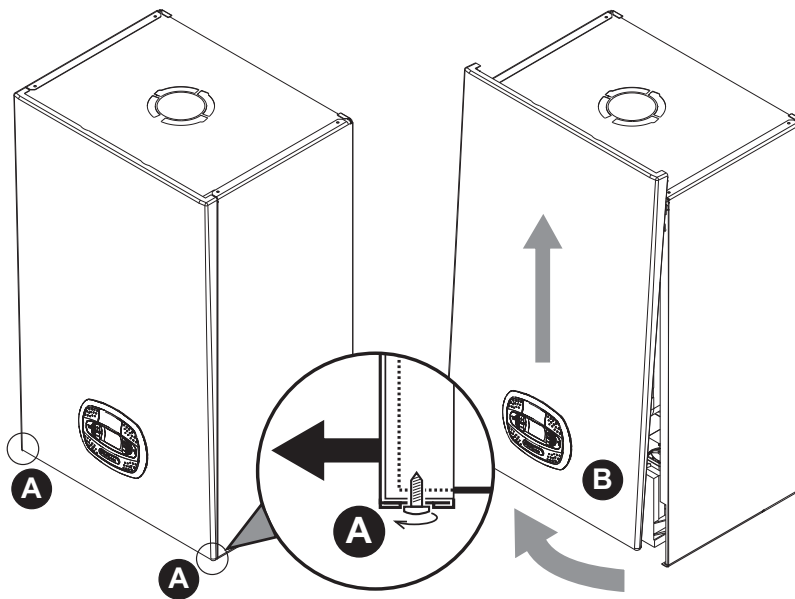

fig. 33- Front panel opening
1. Partially undo the screws **A** (see fig. 33).